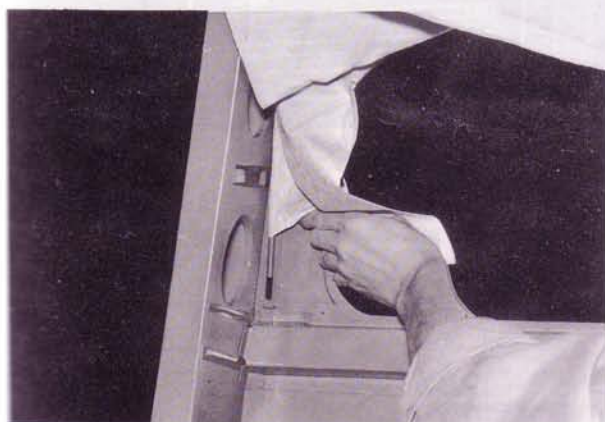

Fig. 14-13 Inserting rear listing wire
1. Beginning at the rear, insert both ends of rear listing wire into the holes of the back plate, as shown in Fig. 14-13.